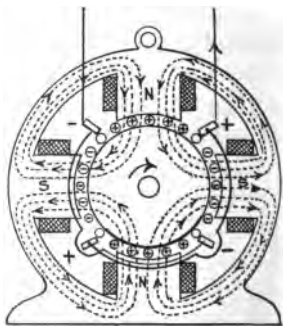

FIG. 285.—Four-pole generator.
**323. Multipolar generators.** The machines which have been described are called bipolar machines. For commercial purposes, especially in large machines, it is common practice to use four, six, eight, or even more poles. Such machines are called multipolar. By increasing the number of poles we can get the commercial voltages (110, 220, or 500 volts), at much slower speeds than would be necessary in a bipolar machine. We have already seen that the voltage depends on the rate at which the wires of the armature cut the lines of magnetic force. But in a four-pole machine (Fig. 285) each wire on the armature cuts a complete set of lines of
force four times in each revolution instead of twice as in a two-pole machine. For this reason the speed of a four-pole machine is one half the speed required in a two-pole machine for the same voltage. Furthermore, the multipolar machine is more economical to build because it requires less iron to carry the magnetic flux. It will be observed from the diagram (Fig. 285) that every other brush is positive and is connected to the positive terminal of the machine.